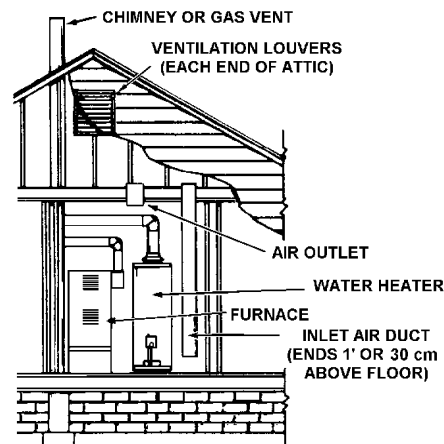

FIGURE 12.
- When communicating with the outdoors through vertical ducts, each opening shall have a minimum free area of 1 square inch per 4,000 BTU per hour (5.5 cm2/kW) of total input rating of all equipment in the enclosure. See Figure 12.